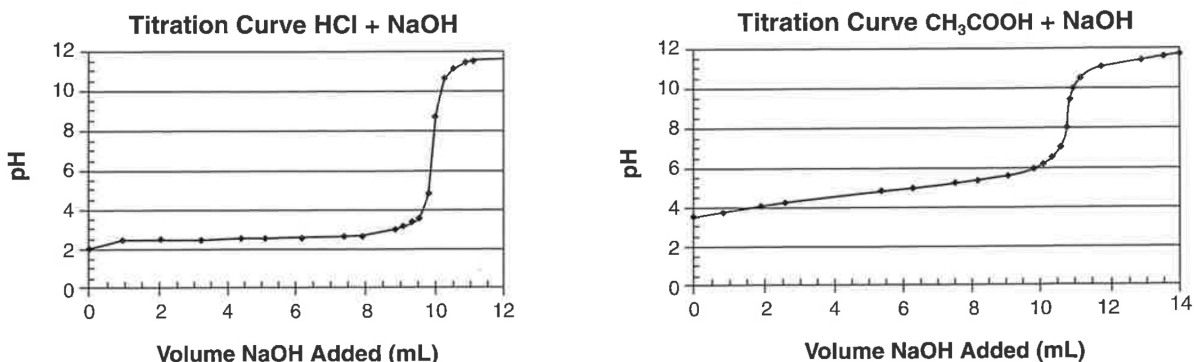

Figure 3: Standard Titration Curves
4. The titration curves for hydrochloric acid and acetic acid with sodium hydroxide are shown below in Figure 3. Distinguish between the strong and weak acid in terms of the initial pH, the pH at the equivalence point, and the overall shape of the titration curve.